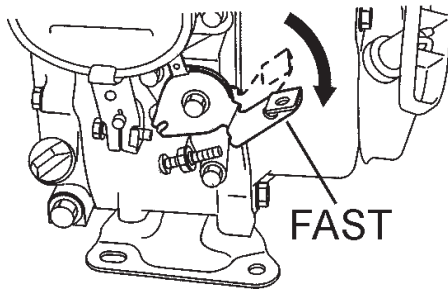

Figure 16. Throttle Lever (Fast)
8. To begin compacting, place the throttle lever (Figure 16) in the “**fast**” (run) position.